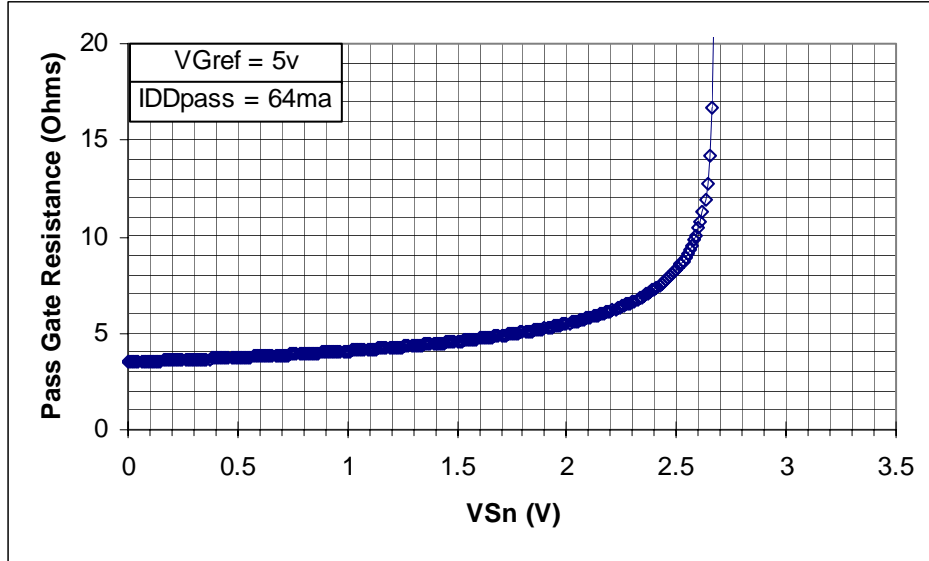
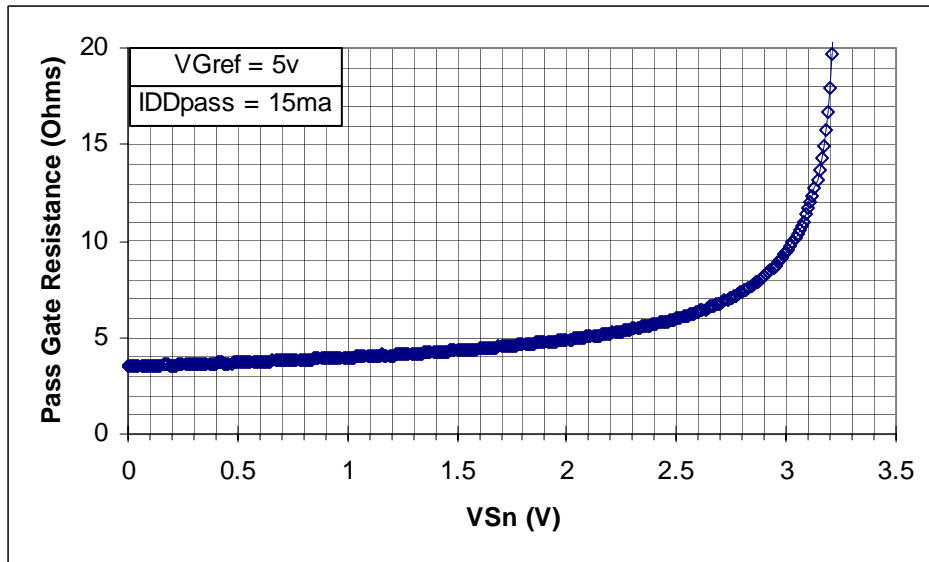

Figure 15. Electrical Characteristics as a CBT like function, resistance – source voltage with the gate at 5.0 V and 64 mA pass current.
Figure 16. Electrical Characteristics as a CBT like function, resistance – source voltage with the gate at 5.0 V and 15 mA pass current.
Figure 15 shows typical pass transistor on resistance ( $R_{ON}$ ) as a function of source voltage with the gate at 5 V and  $I_{source} = 64$  mA, Figure 16 shows  $R_{ON}$  with  $I_{source} = 15$  mA. As can be clearly seen in these figures, the  $R_{ON}$  changes only slightly as long as the source voltage is less than the gate to source voltage necessary to conduct an  $I_{dsat}$  equal to the current source current (64 mA for Figure 15 and 15 mA for Figure 16). The  $R_{ON}$  increases rapidly as the transistor is unable to conduct the high current. CBT functions are generally used with dynamic currents rather than static currents.
Figure 15 shows that a driver capable of first reflected wave switching can propagate its transition through the GTL-TVC device as a first reflected wave because, at 64 mA, the resistance is still low ( $\sim 8 \Omega$  at 2.5 V) and only 50 mA is required to impose a 2.5 V transition into a 50  $\Omega$  line (the voltage doubles at the end to 5 V).
**Answer:** Yes, as long as the low side high voltage is the same for both translations, in this case 1.5 V. In this case, the SREF can be connected to 1.5 V and different transistors used, i.e. source side on the 1.5 V level and the drain of one at 3.3 V and the drain of the other at 5.0 V as shown in Figure 16. The Pull up resistors would need to be sized so as not to exceed the maximum allowed current (i.e., 15 mA) for the GTL-TVC device.